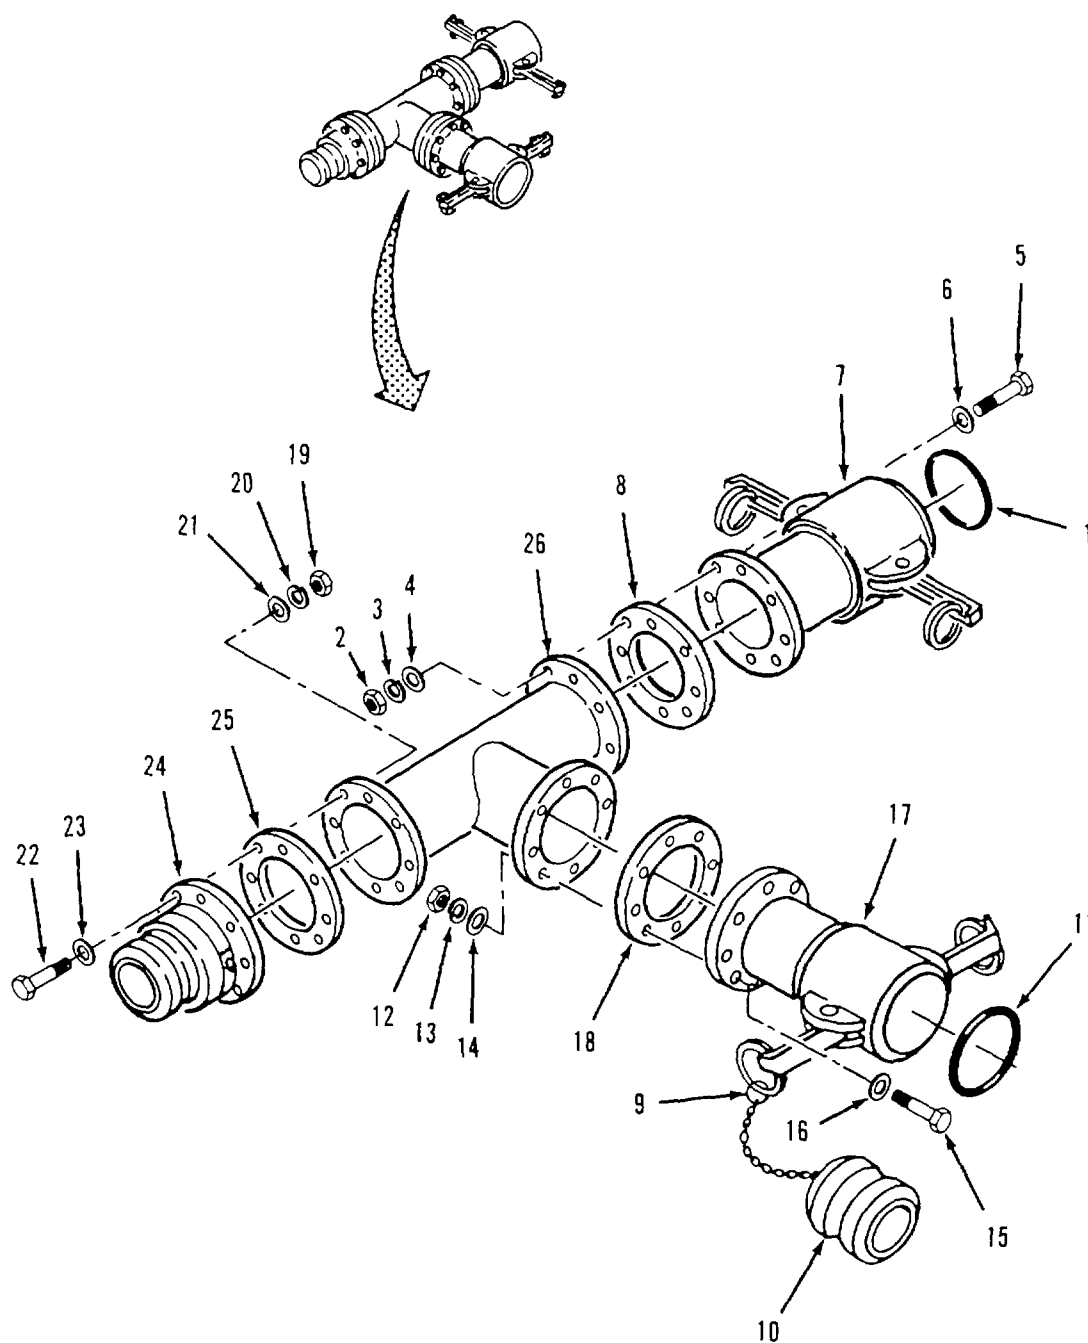

Figure 4-24. Tee Assembly (9112-Y3) Assembly
- e. Assembly. Refer to figure 4-24.
- (1) Position gasket (25) and male coupling (24) on tee (26).
- (2) Install eight flat washers (23), screws (22), flat washers (21), lockwashers (20) and nuts (19).
- (3) Position gasket (18) and female coupling (17) on tee (26).
- (4) Install eight flat washers (16), screws (15), flat washers (14), lockwashers (13) and nuts (12).
- (5) Connect ring (9) and attached plug (10) to female coupling (17).